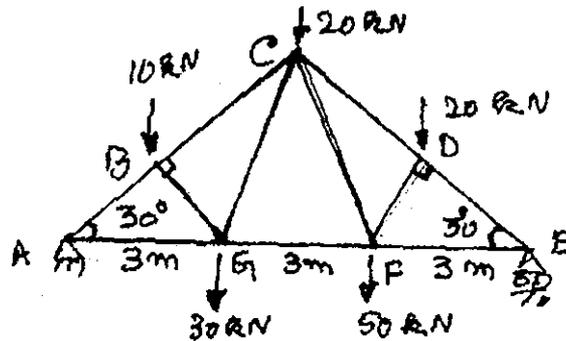

Fig. 1
11. (a) Compute the member forces for the plane truss shown in Fig. 1.